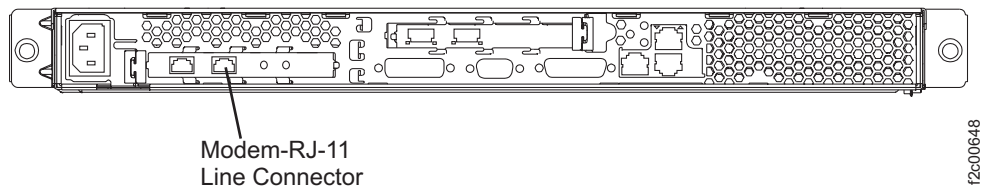
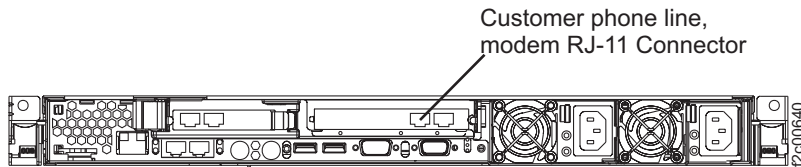

Figure 59. The modem connector (RJ-11 phone line) on the rear of the X335 management console server
Figure 60. The modem connector (RJ-11 phone line) on the rear of the X336 management console server
- b. Connect the customer's phone line cable to the line connector on the modem card at the rear of the management console server. See Figure 59 (X335 server) or Figure 60 on page 64 (X336 server).